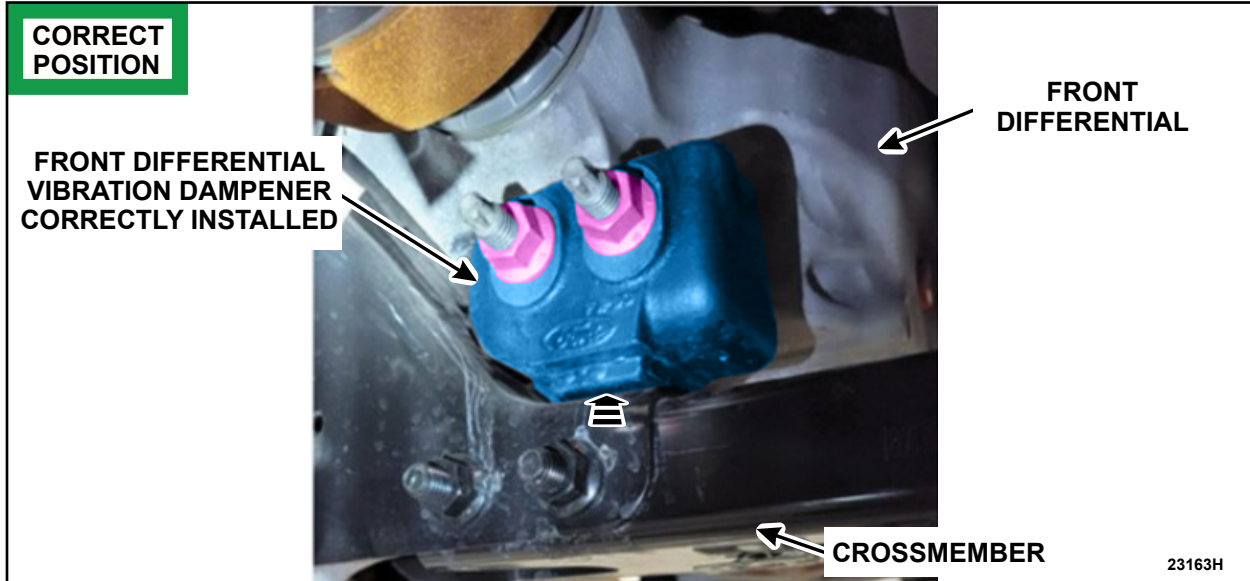

FIGURE 5
6. Flip the front differential vibration dampener to achieve the correct position and install the retainers. See Figure 5.